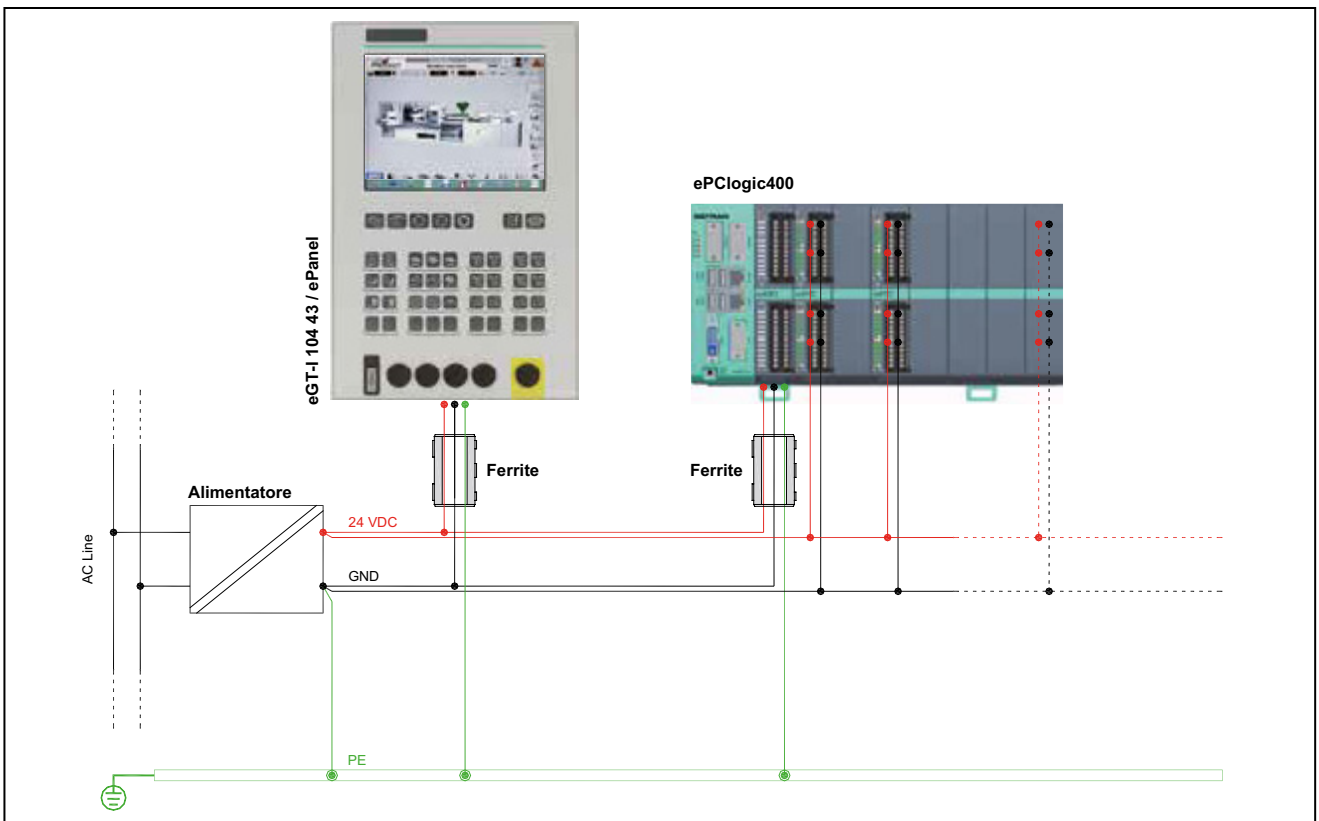

Figure 6 : Single power supply
The system can be powered with ONE (1) power supply as shown in Figure 6.